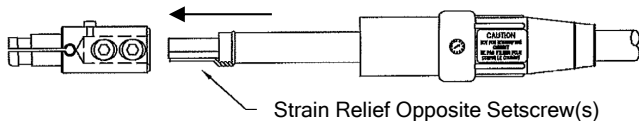

Figure 8
8. Insert the exposed cable strands with the strain relief into the contact. See Figure 8.